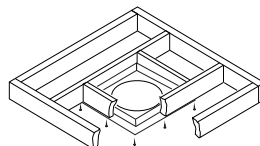

Figure 20 - Installing Firestop
1. Cut a 10 3/4" square hole in the ceiling using the locating hole as a center point. The opening should be framed to 10 3/4" x 10 3/4" (273 mm x 273 mm) inside dimensions, as shown in Figure 9 on page 10 using framing lumber the same size as the ceiling joists. If the area above the ceiling is an insulated ceiling or a room, nail firestop from the top side. This prevents loose insulation from falling into the required clearance space. Otherwise, install firestop below the framed hole. The firestop should be installed with no less than three nails per side (see Figure 20).